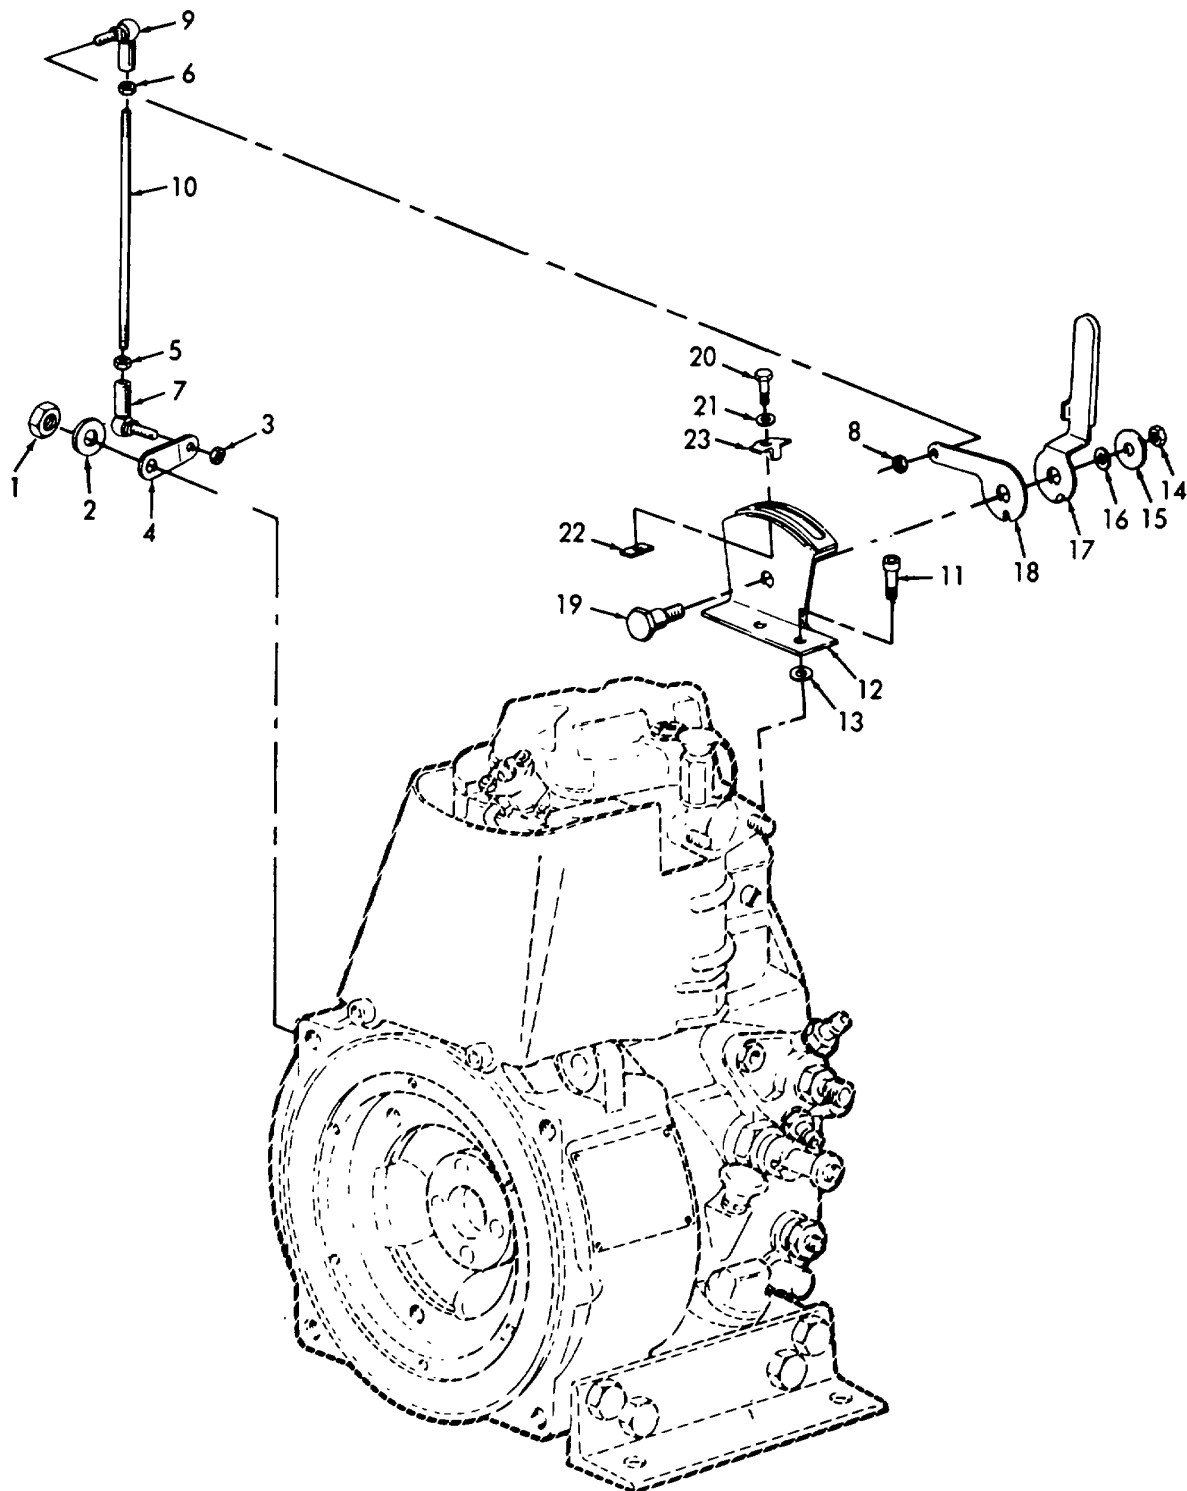

Figure 4-10. Throttle Removal/ Installation/ Adjustment.
a. Removal. (Refer to figure 4-10).
- (1) Remove nut (1), disc (2), and nut (3). Remove lever (4).
- (2) Loosen nuts (5 and 6). Unscrew angular joint (7) from adjusting screw (10).
- (3) Remove nut (8). Unscrew angular joint (9) from adjusting screw (10).
- (4) Remove two screws (11). Remove console (12) and four discs (13).
- (5) Remove two nuts (14), disc (15), and spring washer (16).
- (6) Remove hand lever (17), lever (18), and screw (19).
- (7) Remove two screws (20), two discs (21), two nuts (22), and two fixing flaps (23).
- (7) Install nuts (5 and 6), if they were removed from adjusting screw (10).
- (8) Install angular joints (7 and 9) on adjusting screw (10).
- (9) Install angular joint (9) on lever (18). Secure with nut (8).
- (10) Install angular joint (7) on lever (4). Secure with nut (3).
- (11) Tighten nuts (5 and 6).
- (12) Install lever (4) on engine. Secure with disc (2) and nut (1).
c. Adjustment. (Refer to figure 4-10).
- (1) Idle Adjustment. With engine running, loosen screw (20) and slide fixing flap (23) toward fuel lift pump side of engine. Move hand lever (17) to desired idle speed. Slide fixing flap (23) against hand lever (17) and tighten screw (20).
- (2) Top Speed Adjustment. With engine running, loosen second screw (20) located closest to injection pump. Slide second fixing flap (23) toward injection pump side of engine. Move hand lever (17) to engine top speed. Slide fixing flap (23) against hand lever (17) and tighten screw (20).
- (3) If idle or top speed of engine cannot be obtained, loosen nuts (5 and 6) and turn adjusting screw (10) to increase or decrease travel of hand lever (17). Tighten nuts (5 and 6) after adjusting.